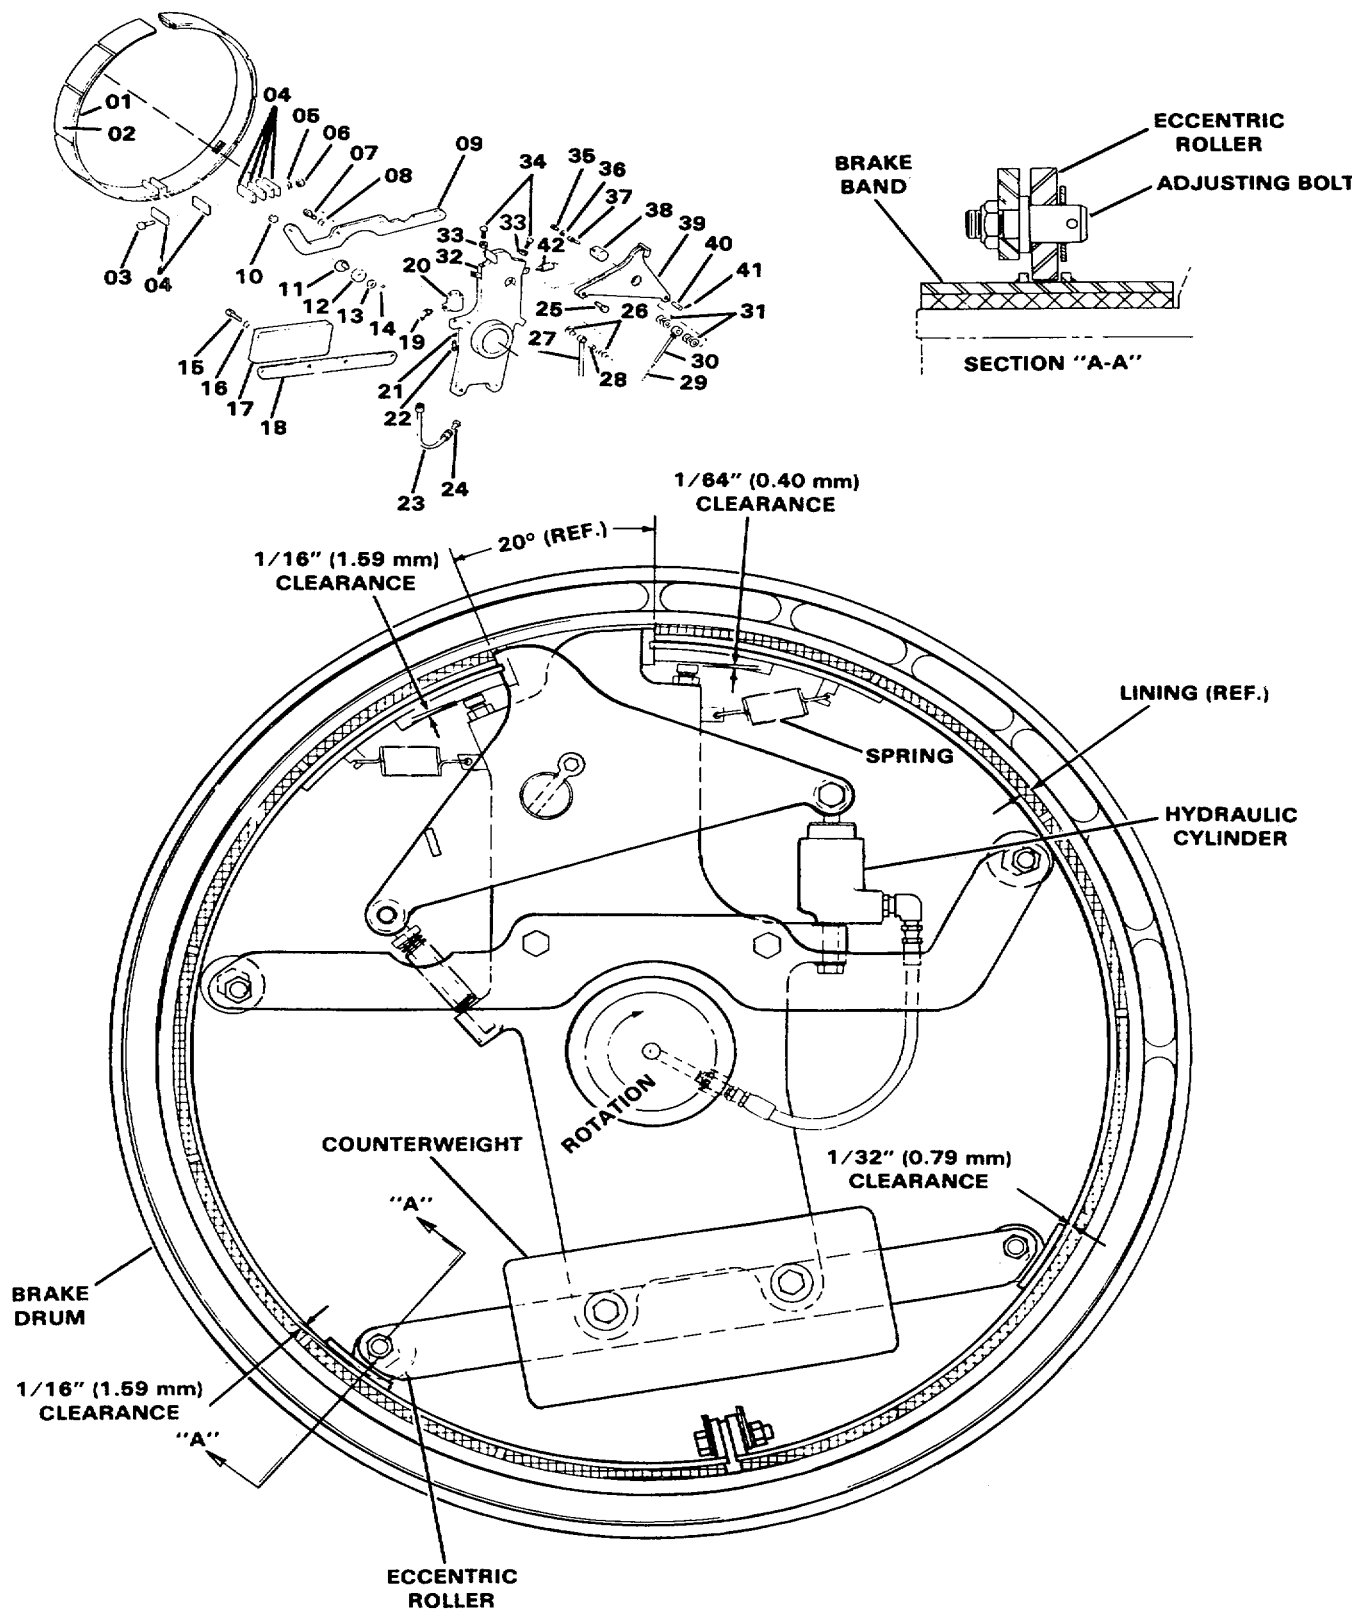

Figure 7F-1. Front and Rear Drum Clutch (910J357-6)
REMOVAL. To remove the clutch bands, proceed as follows (see Figure 7F-1):
INSPECTION AND REPAIR. Prior to reinstalling the clutch band halves on the drum, inspect the following items (see Figure 7F-1):
2. Remove bushing (28) from eyebolt (27) and replace it.
3. Inspect rollers (12) for cracks, distortion, or flat spots. Replace if necessary.
4. If cylinder (20) leaks or has been performing erratically remove and overhaul if necessary. See Subsection 5D.
6. Check actuating lever (39) and spider (32) for wear. Replace if necessary. To replace spider (32) it will be necessary to remove the drumshaft. See Subsection 7D.
ASSEMBLY AND INSTALLATION. To assemble the drum clutch and install the clutch band halves, proceed as follows (see Figure 7F-1): 1. Place the clutch band halves in the clutch drum and connect the two halves by installing capscrews (03), lockwashers (05) and nuts (06).
2. Install rollers (12) on brackets (18 and 09). Connect the brackets to spider (32) and secure in place with the attaching hardware.
LEGEND FOR FIGURE 7F-1
ADJUSTMENT. To adjust the clutch after it has been removed, proceed as follows (see Figure 7F-1):